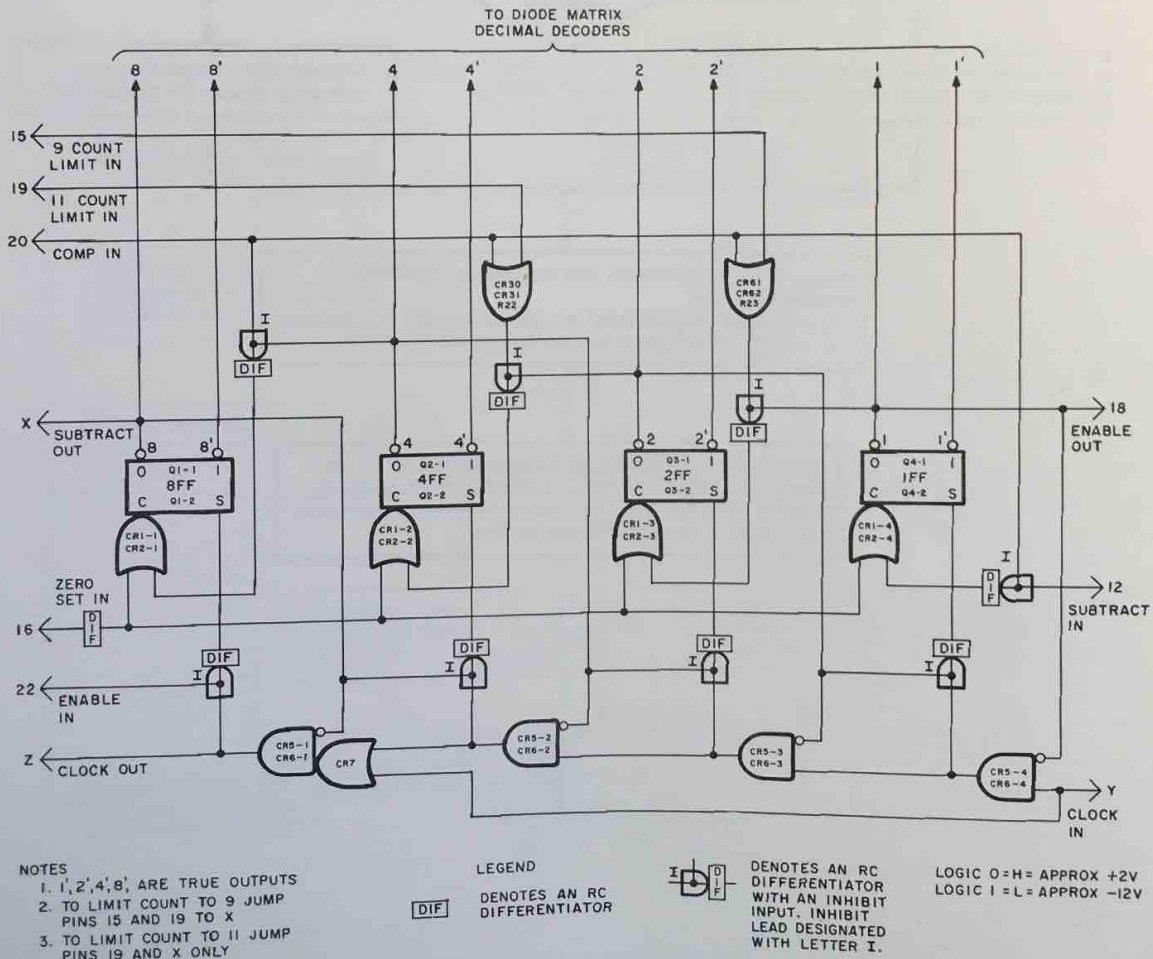

Figure 3.6. Typical BCD Counter Circuit
**3.3.3.2 Digitizing Cycle.** The digitizing cycle starts when the Dummy FF releases the inhibit gate (diode CR1, Drawing D044 302 0S) and permits the clock pulses to be sent to the BCD counters. The Dummy FF also sends an enable signal to pin 22 of the 1000's counter (Drawing D038 032 0S and Figure 3.6) and releases the differentiator (via CR4-1) in the trigger input lead of transistor Q1-2 of the 8 FF in the 1000's counter (or 8000's FF).